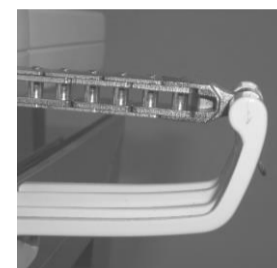

Figure 16
2. Hold the window with one hand and pull the pin out of the opening with the other hand (*we recommend to do so with the opening of at least 10 cm to facilitate the release of the window*) - Fig. 16.